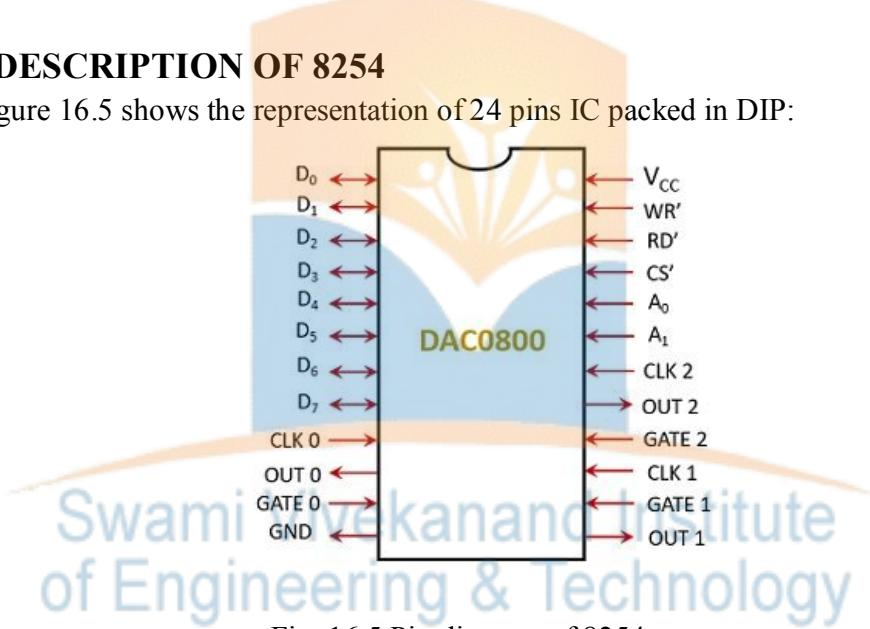

Fig. 16.5 Pin diagram of 8254
- The figure 16.5 shows the representation of 24 pins IC packed in DIP: